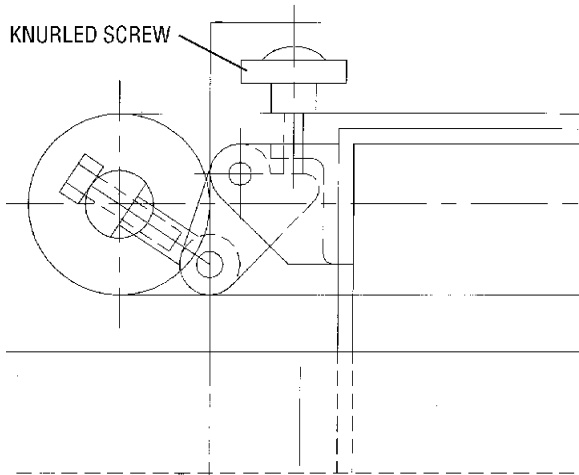

FIGURE 5
3. If the belt does not remain centered, referring to Figure 5, tighten or loosen knurled screw to shift the belt toward the center of the pulley. Turn the screw to increase tension on the side of the belt away from which you want the belt to move.